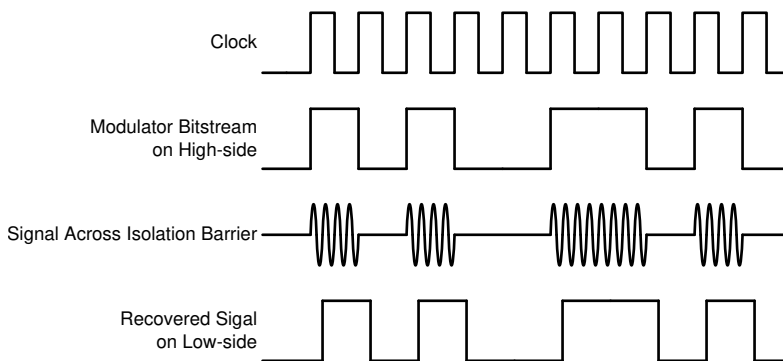

图 7-3. OOK-Based Modulation Scheme
The AMC3306M05 uses an on-off keying (OOK) modulation scheme, as shown in 图 7-3, to transmit the modulator output bitstream across the SiO2-based isolation barrier. The transmit driver (TX) shown in the Functional Block Diagram transmits an internally generated, high-frequency carrier across the isolation barrier to represent a digital *one* and does not send a signal to represent a digital *zero*. The nominal frequency of the carrier used inside the AMC3306M05 is 480 MHz.